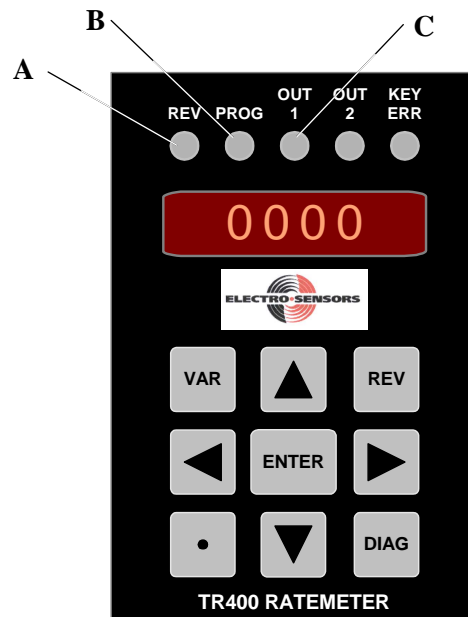

Figure 9a: TR400 Front Panel Description
The TR400 face contains five (5) status LEDs, a four-digit display, and a keypad containing nine (9) keys. See Figures 9a and 9b; the letters in Figures 9a and 9b represent each part on the front panel of the TR400. The Parts and Functions table that follows describes the function of each the parts.